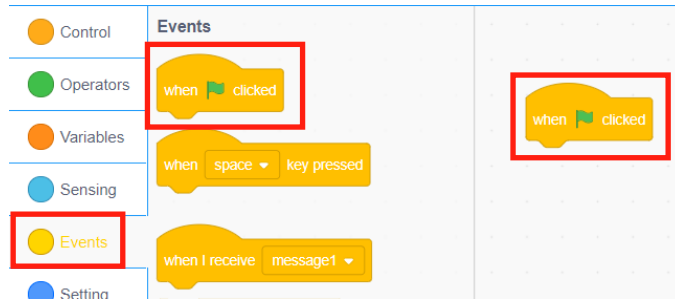

Figure 1.10 "When the green flag is clicked"
Step 6: Set the triggering method of the program. Click the "Events" tab, and drag the "When the green flag is clicked" block, as shown in Figure 1.10.